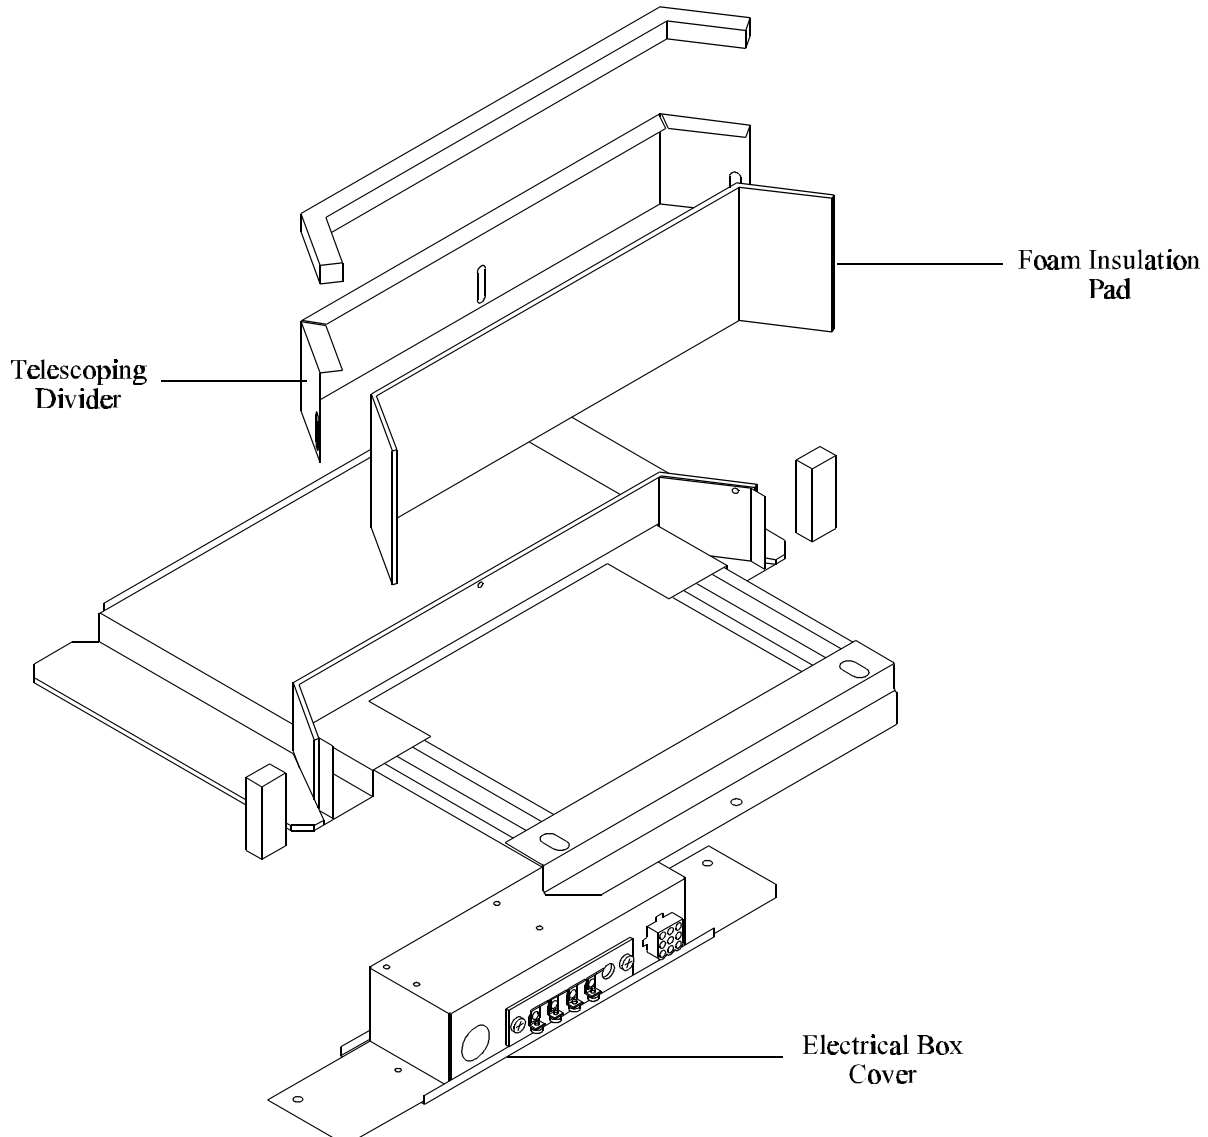

FIGURE 7
1. Locate foam topped, three-sided, telescoping divider plate, reference Figure 7. Insert telescoping divider plate between the back of the ceiling plenum electrical box and the vertical insulated divider directly behind it. Attach the telescoping divider plate with 2 sheet metal screws provided in the parts package. Leave the screws slightly loose for adjustment purposes.
2. Remove ceiling plenum electrical box. Retain box and two screws for reattachment. See Figure 7. Familiarize yourself with the high voltage wiring box, strain relief and wiring. The 120V supply wiring must be routed through the strain relief in the high voltage wiring box and secured to wiring inside.
2. Position ceiling plenum into the ceiling opening. For proper orientation of the ceiling plenum, reference Figure 7.